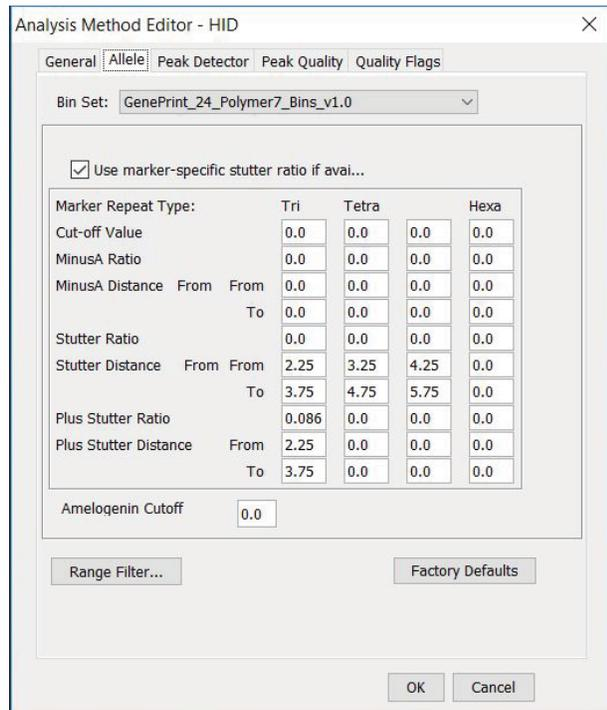

Figure 26. 'Allele' Tab settings.
5. To verify the correct bin settings, locate the new *GenePrint*® 24 Analysis Method at the bottom of the list of methods. Select the analysis method, and then choose **Open**. Select the Allele tab, and choose 'GenePrint_24_Polymer7_bins' from the drop-down menu at the top, if it does not already appear. Verify that all settings appear as shown in Figure 26.